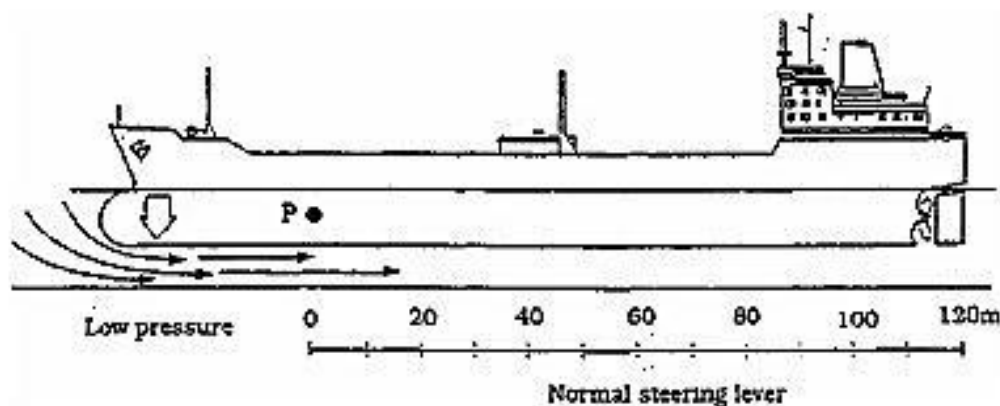

Figure 6-3 Shallow water
- In figure 6-3 the ship is running on even keel with a small under keel clearance and, therefore, water which would normally pass under the ship is now severely restricted.